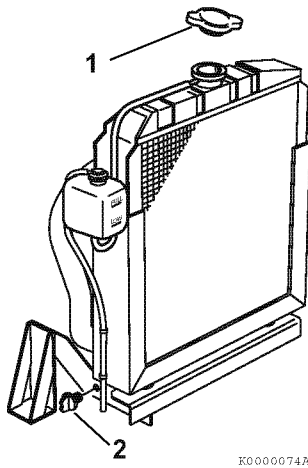

Figure 5-15
3. Remove the drain plug or open the drain cock (**Figure 5-15, (2)**) at the lower portion of the radiator and drain the engine coolant.